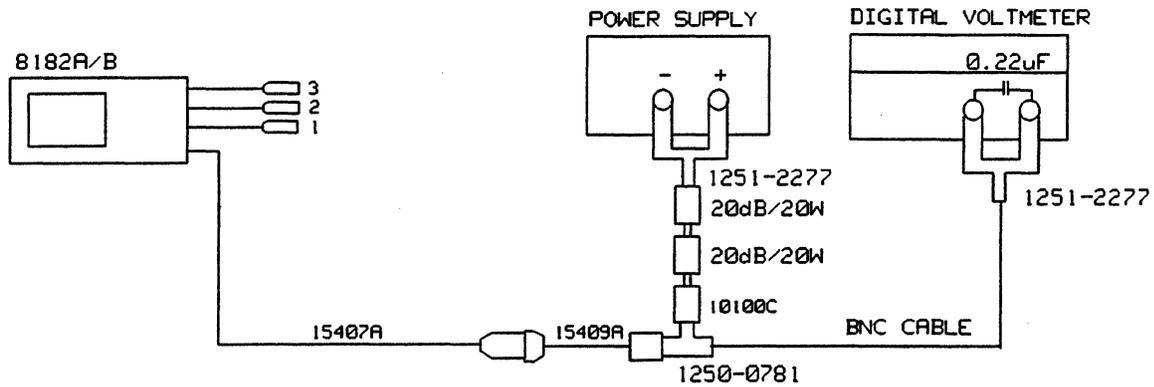

Figure 12-8. Test Setup for the Data Offset and Gain Test
- Connect the equipment as shown in Figure 12-8 and press RUN.